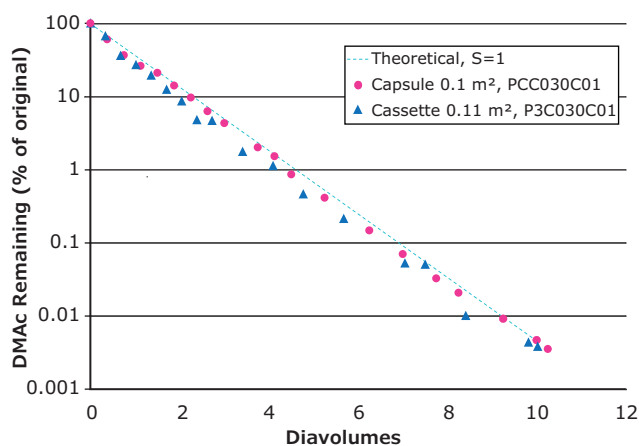
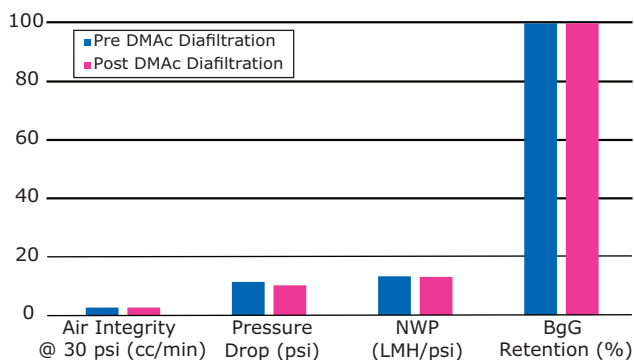

Figure 4. Diafiltration of 20% DMAc from aqueous solution.
Figure 6. Compatibility of Pellicon® Capsule with DMAC.
Figures 4 and **5** show the clearance of 20% DMAc and 20% DMSO, respectively, by diafiltration using capsule and cassette formats. Both filters performed with efficient solvent clearance and track a theoretical process in which no retention of the solvent by the membrane is assumed, calculated using a sieving coefficient (S) of 1. The decrease in DMSO removal rate after ~8 diavolumes may be due to the presence of dead legs in the system and charge interactions. Comparison of pre- and post-diafiltration parameters, including air diffusion, pressure drop, membrane permeability, and protein retention, indicates stability of the capsule to DMSO and DMAc under the tested conditions (**Figures 6** and **7**).